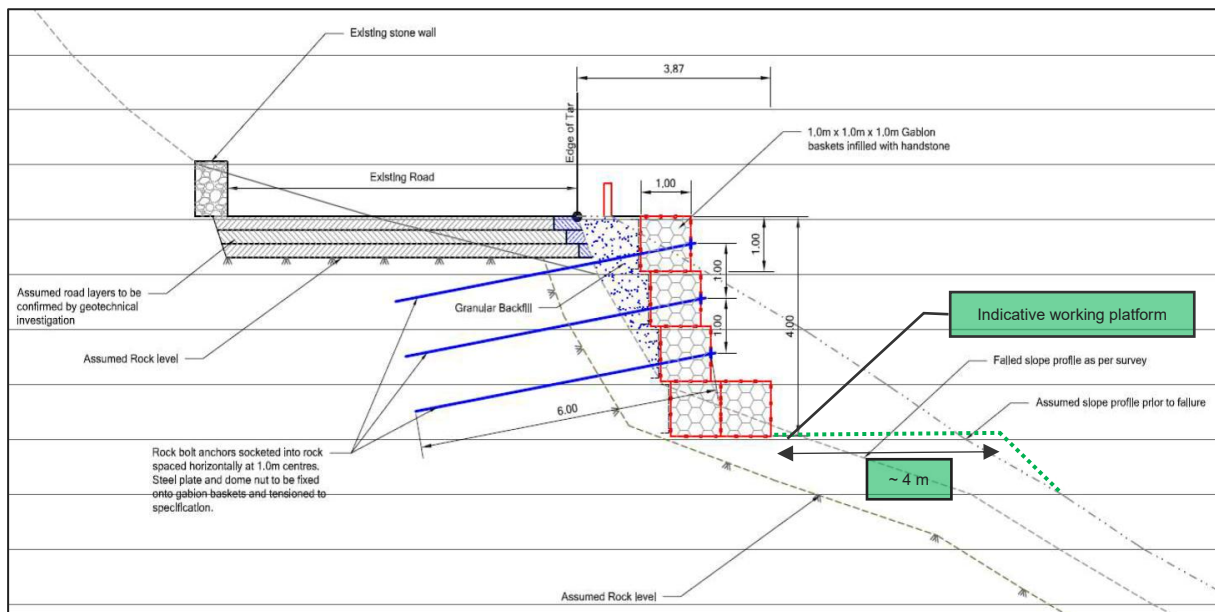

Figure 2-2: Anchored gabion wall concept (Ingerop, 2024)
A conceptual cross-section of the anchored gabion wall option is provided in Figure 2-2.
- ▶ **Slope area:** Clear space behind the wall is required for excavation and installation. This area or footprint will be wider if the slope is steeper (an approximate 4 m wide working platform is indicated by the dotted green line in Figure 2-2).